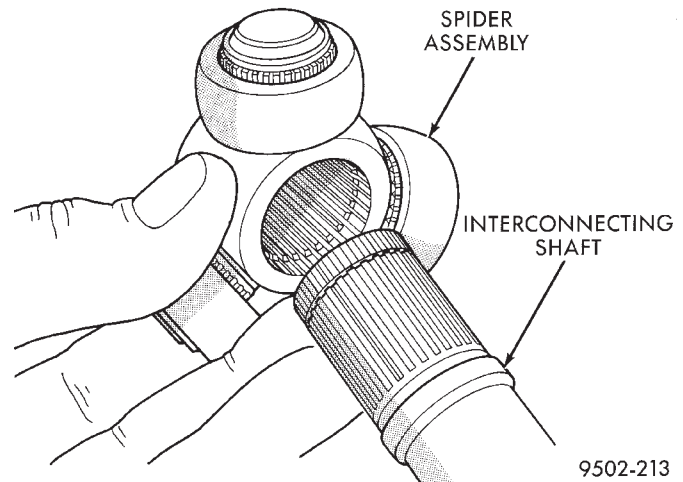
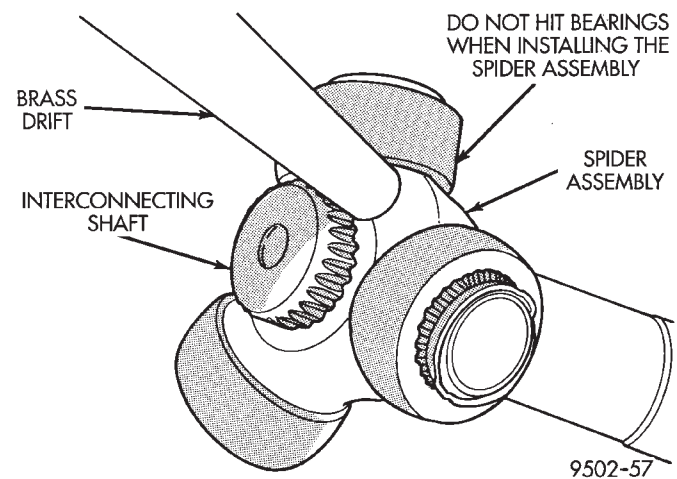

Fig. 31 Spider Assembly Installation on Interconnecting Shaft
Fig. 32 Installing Spider Assembly on Interconnecting Shaft
(2) Install spider assembly onto interconnecting shaft (Fig. 31). Spider assembly must be installed on interconnecting shaft far enough to fully install spider retaining snap ring. If spider assembly will not fully install on interconnecting shaft by hand, it can be installed by tapping the spider body with a brass drift (Fig. 32). **Do not hit the outer tripod bearings in an attempt to install spider assembly on interconnecting shaft.**
(3) Install the spider assembly to interconnecting shaft retaining snap ring into groove on end of inter-